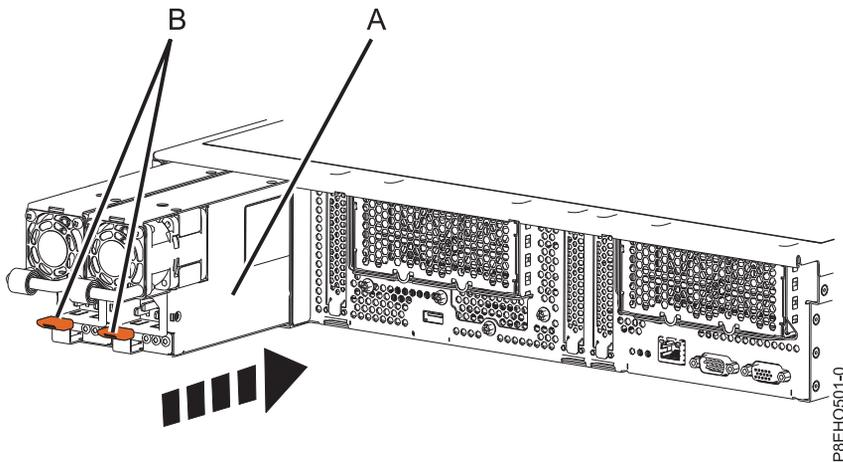

Figure 72. Replacing a power supply in the system
2. Align the power supply (A) with the bay and slide the power supply into the system until the terracotta latch (B) locks in place. See Figure 72.